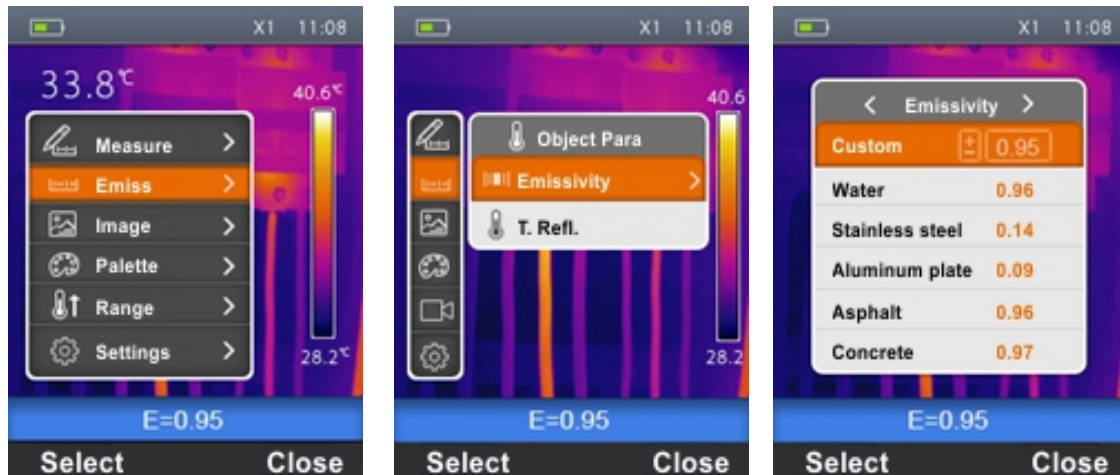

Fig. 17: Setting Emissivity on the instrument
1. Select the item “Emiss” with the keys \oplus or \ominus and press the key $\left[\right]$. The screen Fig. 17 – Central part is shown on the display.
2. Use the keys \oplus or \ominus to select the item “Emissivity” and press the key $\left[\right]$. The screen Fig. 17 – Right side is shown on the display